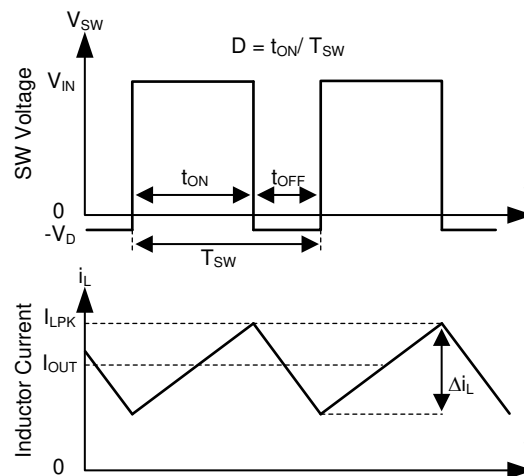

图 7-1. SW Node and Inductor Current Waveforms in Continuous Conduction Mode (CCM)
The following operating description of the LMR23615 refers to # 7.2 and to the waveforms in 图 7-1. The LMR23615 device is a step-down, synchronous buck regulator with integrated high-side (HS) and low-side (LS) switches (synchronous rectifier). The LMR23615 supplies a regulated output voltage by turning on the HS and LS NMOS switches with controlled duty cycle. During high-side switch ON-time, the SW pin voltage swings up to approximately V_{IN} , and the inductor current I_L increase with linear slope $(V_{IN} - V_{OUT}) / L$. When the HS switch is turned off by the control logic, the LS switch is turned on after an anti-shoot-through dead time. Inductor current discharges through the LS switch with a slope of $-V_{OUT} / L$. The control parameter of a buck converter is defined as duty cycle $D = t_{ON} / T_{SW}$, where t_{ON} is the high-side switch ON time and T_{SW} is the switching period. The regulator control loop maintains a constant output voltage by adjusting the duty cycle D . In an ideal buck converter, where losses are ignored, D is proportional to the output voltage and inversely proportional to the input voltage: $D = V_{OUT} / V_{IN}$.